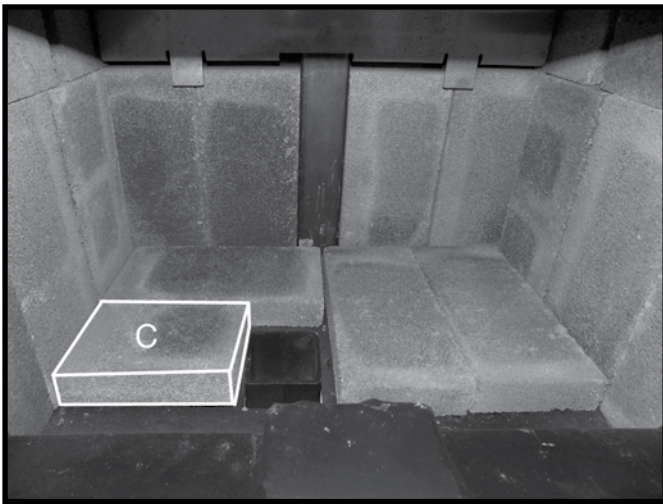

Figure 33: Fourth floor brick in place.
10. Place the "C" firebrick so that it sits beside the ash dump, against the left-hand side wall and the "A" firebrick located directly behind the ash dump (Figure 33).